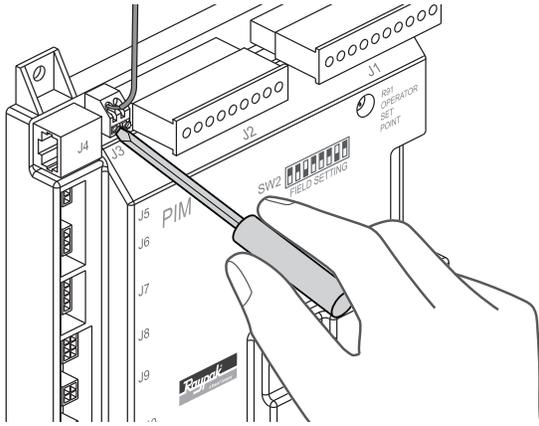

Figure 30. FT_BUS Wire Connection
3. Connect the FT_BUS wires to the PIM by pressing down on the slots with a small screwdriver and then inserting the wires into the holes. See **Figure 30**. Fault will occur if wires are reversed.